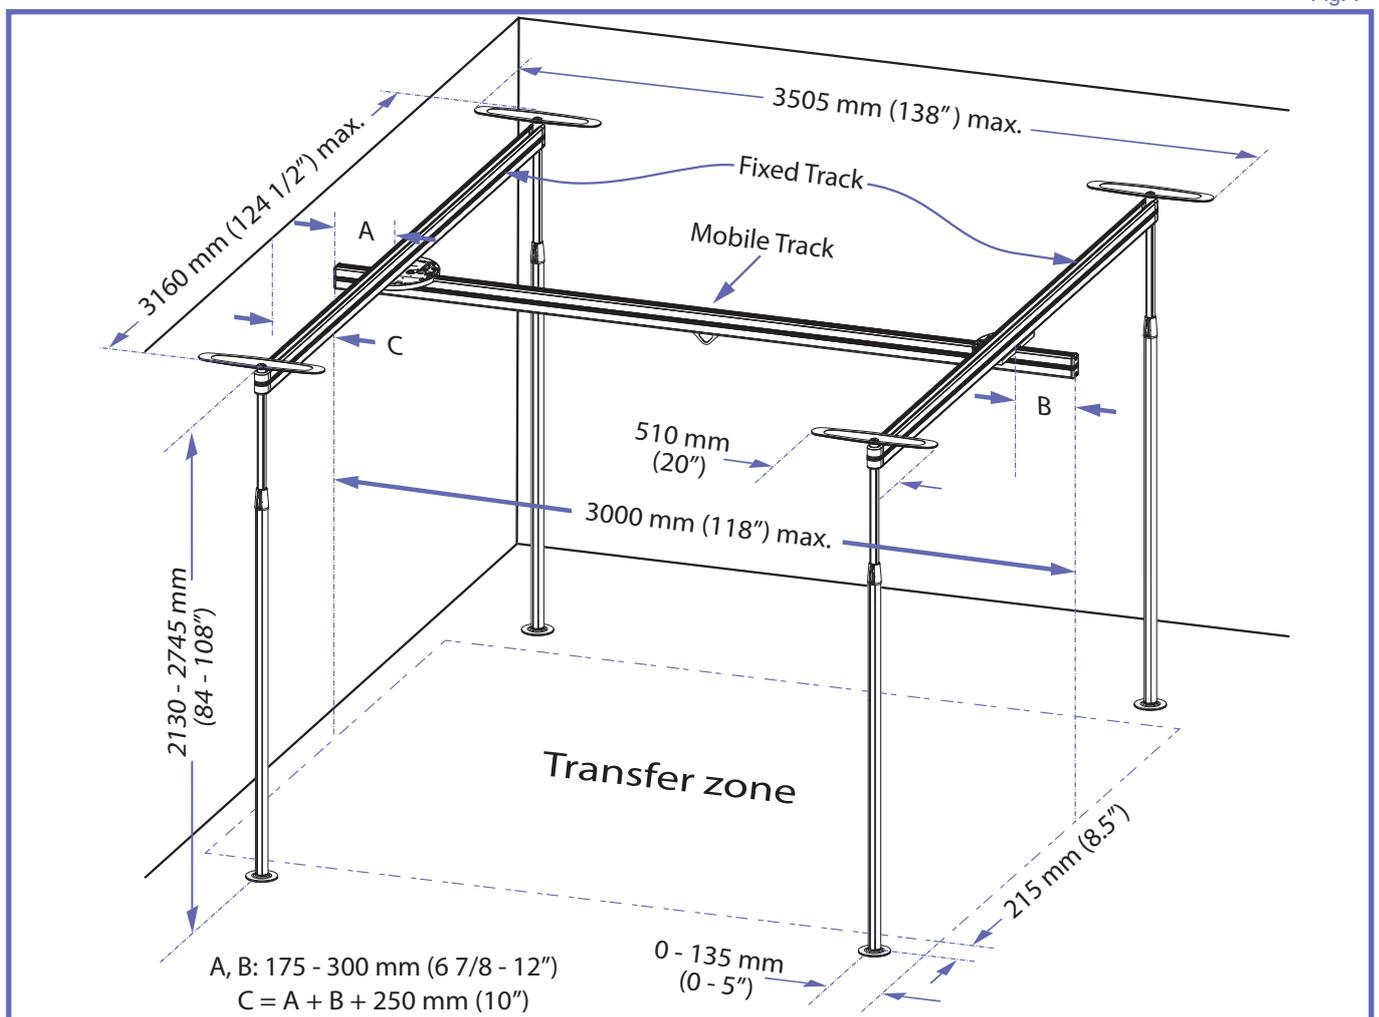

Fig. 5
- 3) Referring to Fig.5, determine the location for the four posts considering the following:
- 19) Review the “Room Assessment” section on page 7 to make sure the mobile track complies to all requirements as shown on “Fig.5”